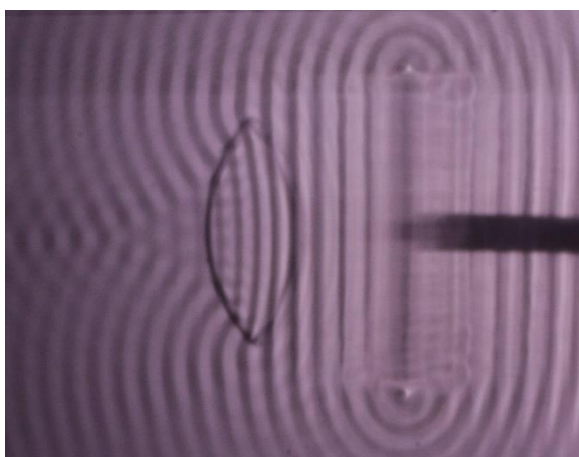
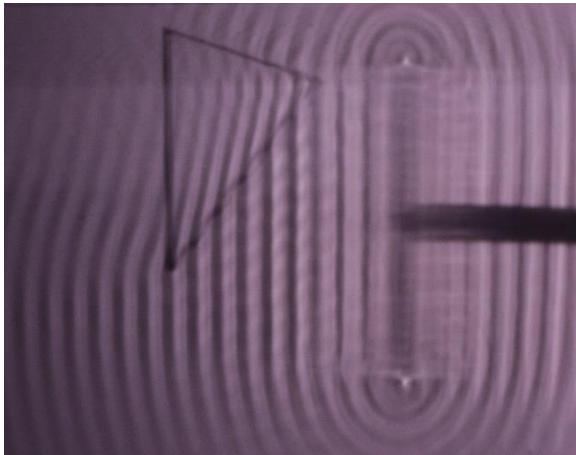

Fig. 2a: Refraction of plane waves at a biconvex lens
Fig. 2c: Refraction of plane waves at a prism
- Rotate the prism so that its long side, which faces away from the wave exciter, is parallel to the wave exciter (Fig. 2c).
Behind the biconvex lens, converging circular waves form, focusing on a point (Fig. 2a). Behind the biconcave lens, diverging circular waves appear to originate from a virtual focal point in front of the lens (Fig. 2b). The prism deflects the plane waves (Fig. 2c).